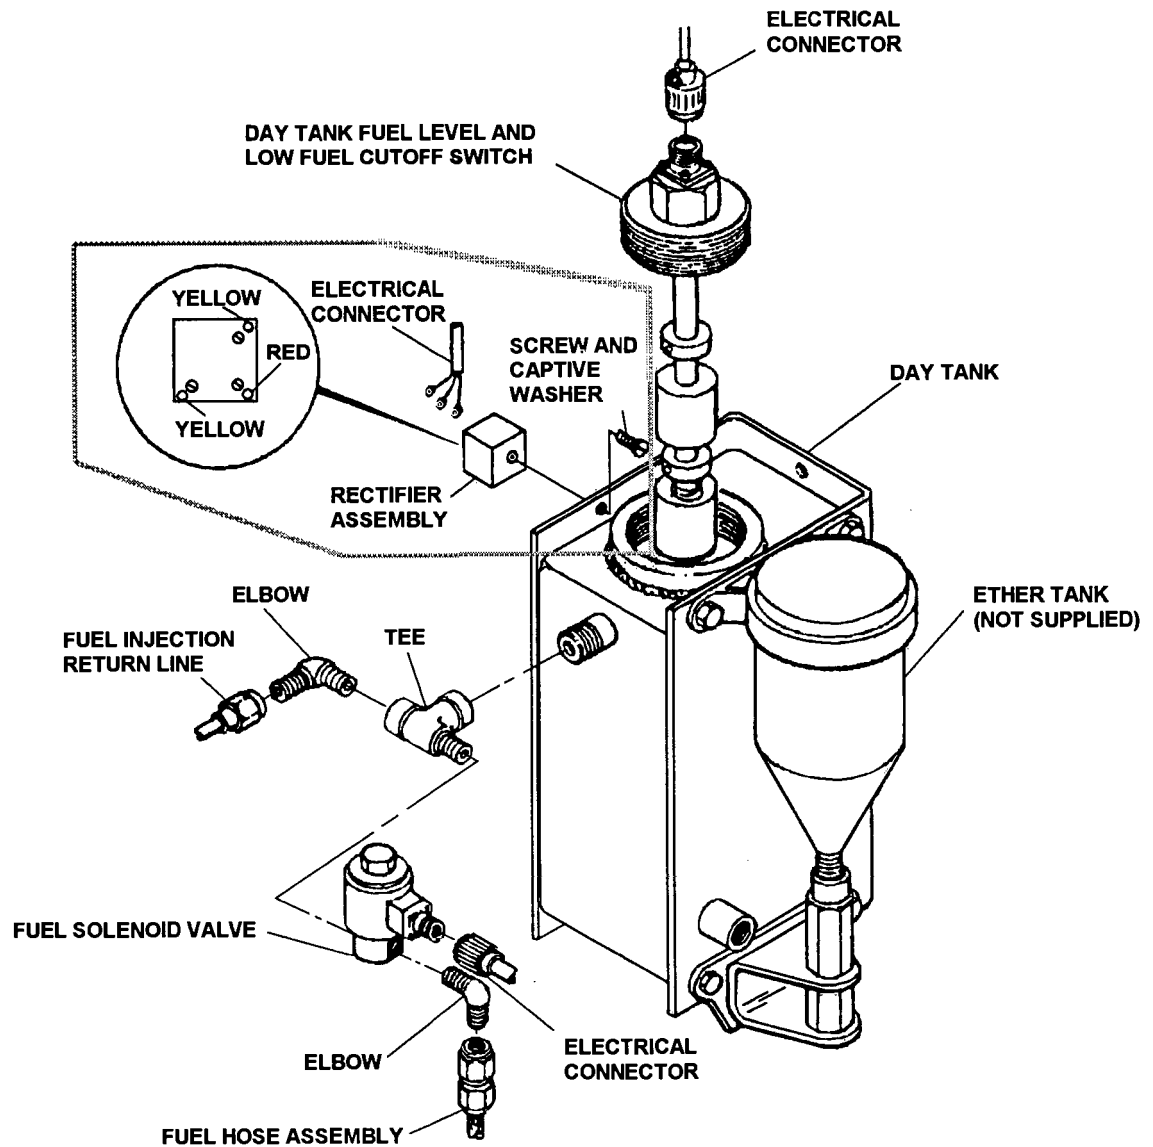

Figure 4-13. Day Tank Fuel Level, Low Fuel Cutoff Switch, Fuel Solenoid Valve and Rectifier Assembly, Removal and Installation
- (1) Disconnect electrical connector (Figure 4-13).
- (2) Unscrew fuel level and low fuel cutoff switch from day tank.
- (1) Screw day tank fuel level and low fuel cutoff switch onto day tank (Figure 4-13).
- (2) Reconnect electrical connector.
- (1) Disconnect fuel supply hose, electrical connector and injector return line (Figure 4-13).
- (2) Unscrew tee from day tank assembly.
- (3) Remove elbows and tee from fuel solenoid valve.
- (4) Disconnect electrical connector from rectifier assembly.
- (5) Remove screw and captive washer and remove rectifier assembly.
- (3) If day tank does not refill, check that fuel transfer pumps and day tank fuel level and low fuel cutoff switch and interconnecting wire harnesses are operational.
- (4) If fuel transfer pumps and day tank fuel level and low fuel cutoff switch are operational, fuel solenoid valve is defective and must be replaced.
- (5) Check the diodes in the rectifier assembly by placing the positive lead of an ohmmeter on the red coded terminal and the negative lead on one of the yellow coded terminals (Figure 4-13). The ohmmeter should indicate a low resistance.
- (6) Reverse the ohmmeter leads. The ohmmeter should read a high resistance (not infinity).
- (7) Perform the checks in paragraphs (5) and (6) above using the opposite yellow coded terminal.
- (1) Install screw and captive washer and install rectifier assembly (Figure 4-13).
- (2) Reconnect electrical connector to rectifier assembly.
- (3) Install elbows and tee to fuel solenoid valve.
- (4) Screw tee onto daytank assembly.
- (5) Reconnect fuel supply hose, electrical connector, and injector return line.